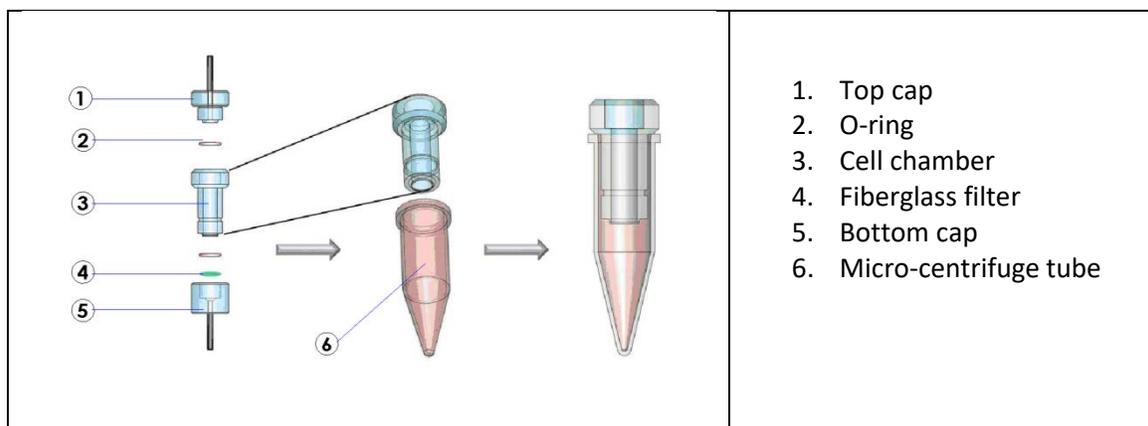

Figure 24. Recovering Islets from Perifusion Chamber
2. Remove the top cap (see Figure 24).
4. Remove the bottom cap and introduce the body of the chamber into a micro-centrifuge tube (see Figure 24). If the fiberglass filter remains attached to the body of the chamber, remove it with a pair of forceps.